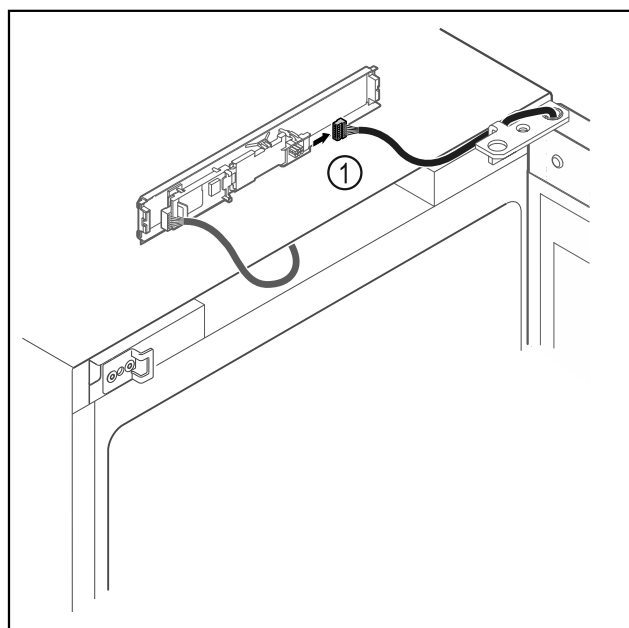

Fig. 10
- Disconnect the plug Fig. 10 (1) from the circuit board.